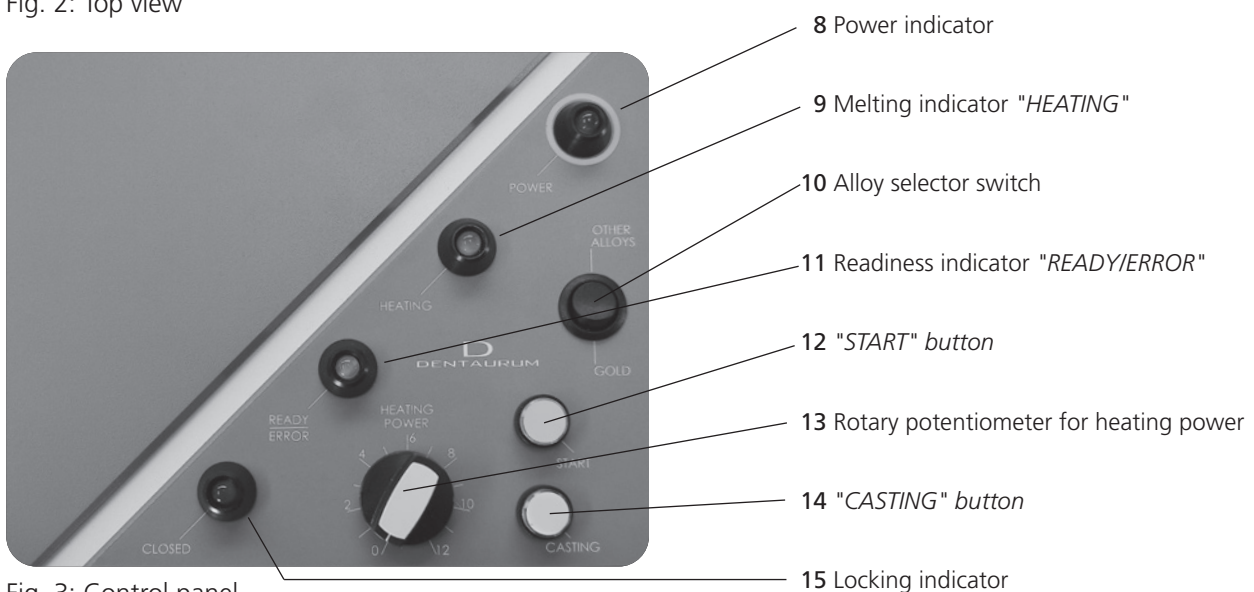

Fig. 3: Control panel
- The induction coil (Fig. 4, Pos. 18), which serves as the heat source, is located in the lower part of the chamber and is activated by pressing the "START" button (Fig. 3, Pos. 12) after positioning the centrifugal arm.
- The melting process is completed by pressing the "CASTING" button (Fig. 3, Pos. 14).
- When the water cycle is circulating properly, the green "READY / ERROR" indicator light (Fig. 3, Pos. 8) lights up.